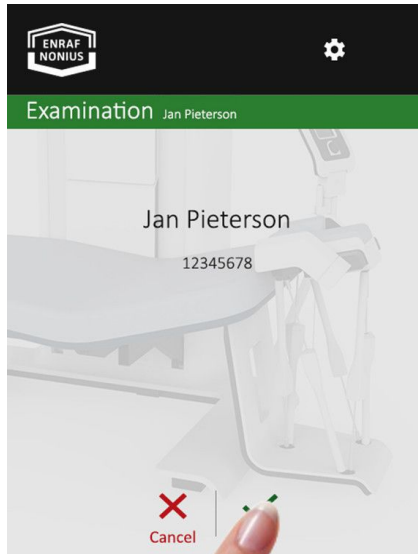

fig. 55
- Confirm name and identification code by pressing "OK" (fig. 55).